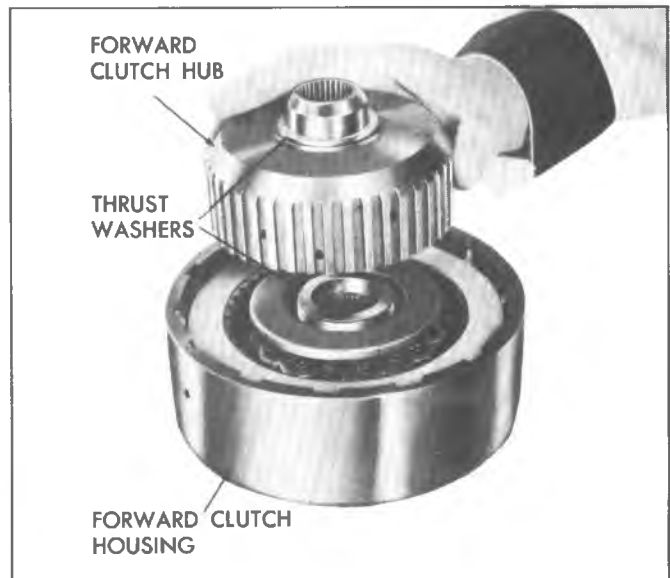
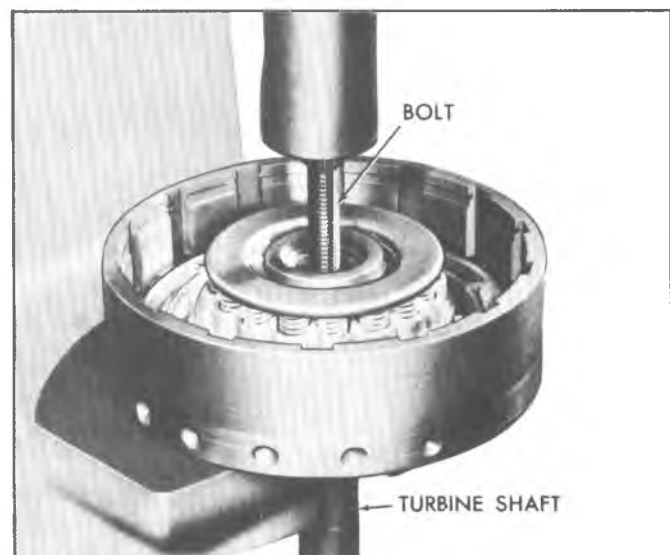

Fig. 68T--Removing Forward Clutch Hub and Thrust Washers
Fig. 69T--Removing Turbine Shaft from Forward Clutch Housing
3. Remove forward clutch hub and thrust washers (fig. 68T).
4. Remove five (5) radial grooved composition and five (5) steel clutch plates.
5. If necessary place forward clutch and turbine shaft in arbor press and remove turbine shaft (fig. 69T).
NOTE: Turbine shaft and clutch housing are serviced separately. Shaft may be removed from housing by using a suitable size socket in an arbor press (fig. 69T).